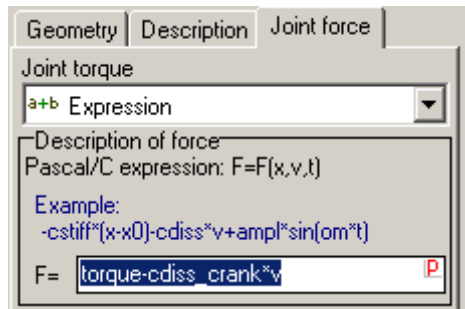

Figure 1.20.
3. Select the Joint force tab, set Joint torque to **Expression** and in the field Description of force set **F= torque-cdiss\_crank\*v**, see Figure 1.20. Press Enter. The window **Initialization of values** for new identifiers appears. Set identifiers value as follows: **torque = 100**, **cdiss\_crank = 10**.